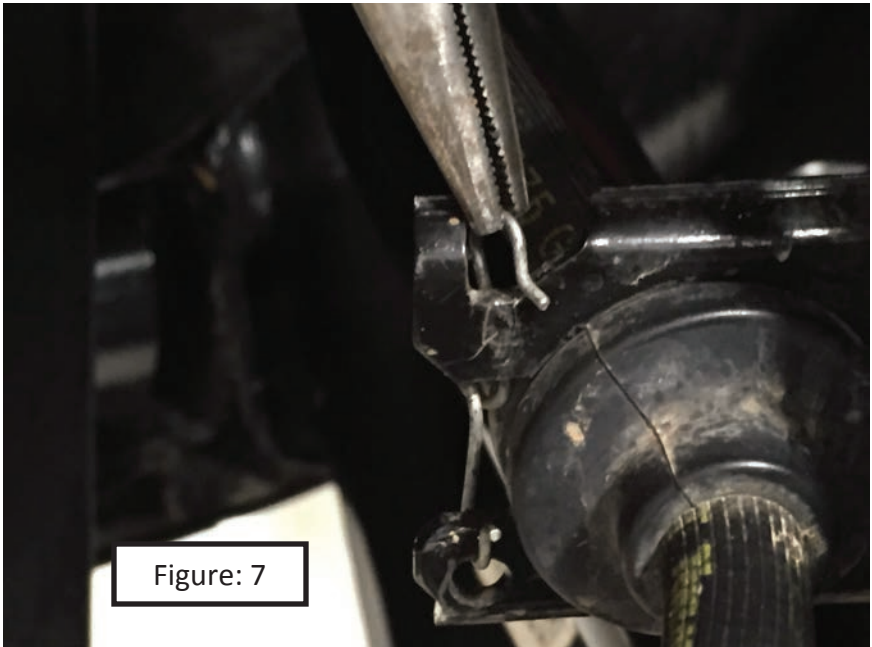

Figure: 5
11. Starting with the Driver's side, disconnect the upper portion of the sway-bar link from the strut. Then remove it from the Jeep by disconnecting it from the sway bar. AT-40 Torx bit and 18mm box end wrench are required for this step (Figure: 5).